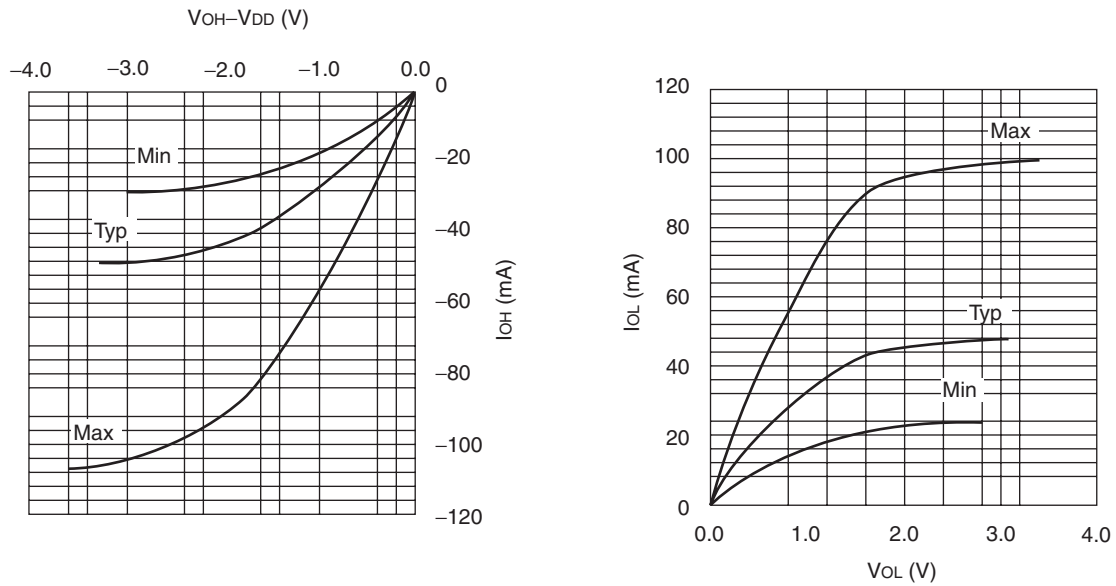

Fig.1 V-I characteristics (3.3 V normal I/O L, M type)
*2 : Refer to the Fig.1 to 2.
Conditions (Fig 1, 2) Min : Process = Slow, $T_j = +125^\circ\text{C}$, $V_{DD} = 3.6\text{ V}$